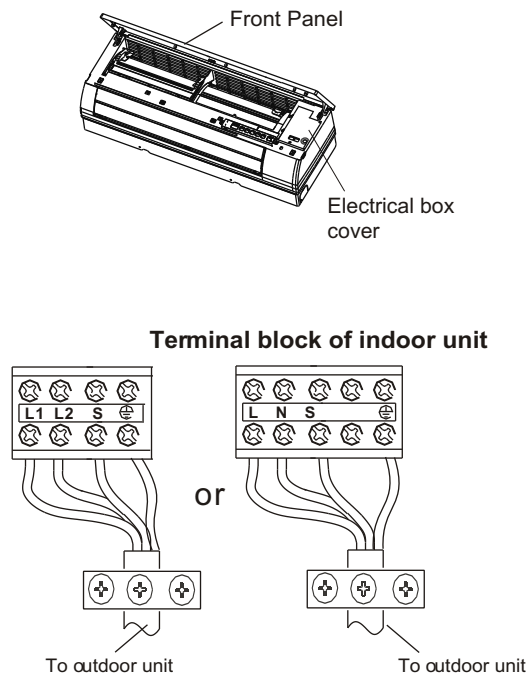

Fig.22
3. Lift the indoor unit panel up, remove the electrical box cover by loosening the screw as shown in Fig.22.